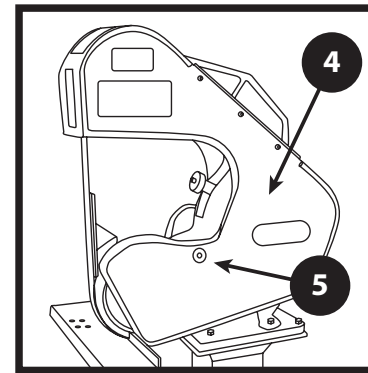

FIGURE 2
- b. The full safety guard is in place, closed, and its door latch is functional such that it will securely hold the safety door closed. (Figure 2).